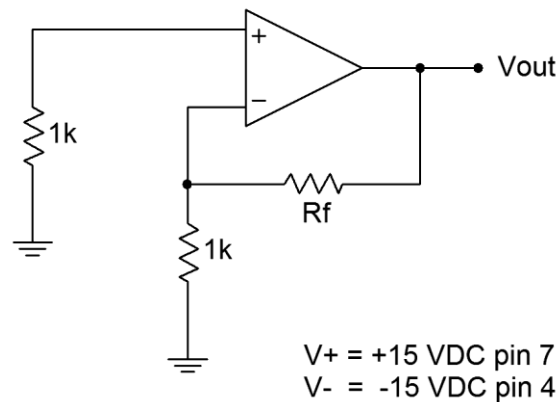

Figure 1
1. Note that the circuit of Figure 1 is a non-inverting voltage amplifier. Calculate the voltage gains for the amplifier of Figure 1 for the R_f values specified, and record them in Table 1.
9. Build the circuit of Figure 1 in Multisim using a 741 op amp and $47k$ for R_f . Run a DC Operating Point analysis to determine the DC output voltage. Compare this to the results measured in Tables 1 and 2. Repeat the simulation with all resistors 10 times larger, and again with all resistors 100 times larger.